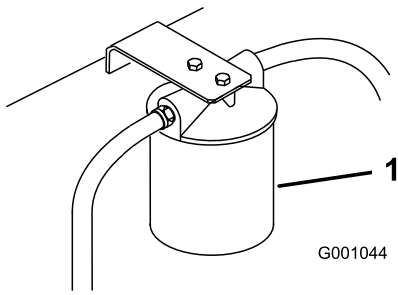

Figure 57
3. Place drain pan under filter, remove the old filter and wipe the filter adapter gasket surface clean (Figure 57).